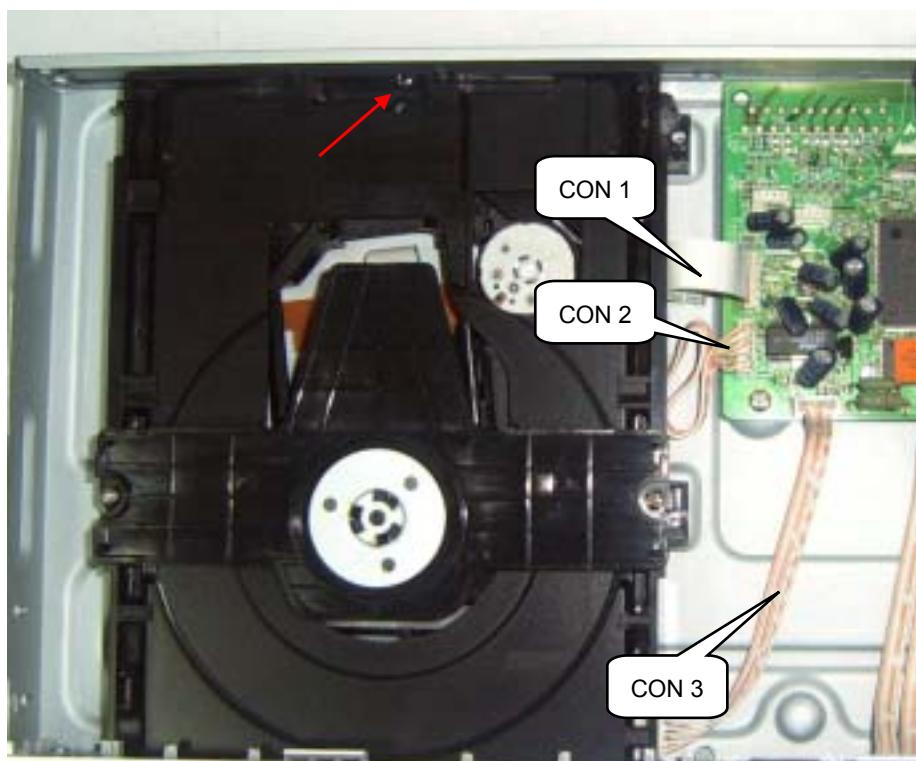

Figure 4
**Step4:** Dismantling Loader, disconnect the 3 connectors aiming in the below figure, and remove 1 screw at the bottom of Loader. (Figure 4)